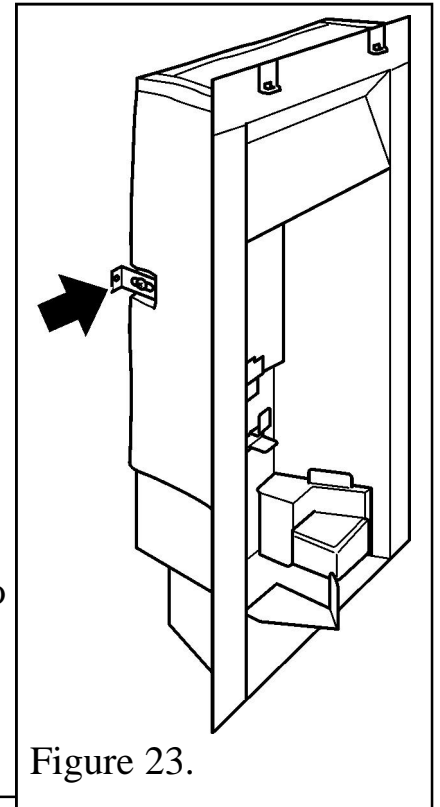

Figure 23.
1. Loose assemble the two fixing brackets provided (See figure 23) using the screws provided.